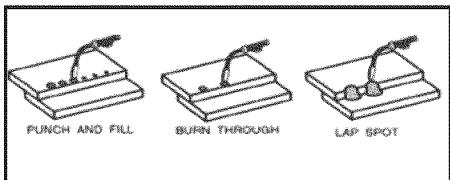

Fig. 16
- **BURN-THROUGH METHOD** welds two overlapped pieces of metal together by burning through the top piece and into the bottom piece. With the burn-through method, larger wire diameters tend to work better than smaller diameters. Wire diameters that tend to work best, with the burn-through method are 0.035 inch self-shielding flux-core wire. Do not use 0.030 inch self-shielding flux core wires when using the burn-through method unless the metal is VERY thin or excessive filler metal build-up and minimal penetration is acceptable. Always select the HIGH heat setting with the burn-through method and tune in the wire speed prior to making a spot weld. (Fig 16)
- **PUNCH AND FILL METHOD** produces a weld with the most finished appearance of the three spot weld methods. In this method, a hole is punched or drilled into the top piece of metal and the arc is directed through the hole to penetrate into the bottom piece. The puddle is allowed to fill up the hole leaving a spot weld that is smooth and flush with the surface of the top piece. Select the wire diameter, heat setting, and tune in the wire speed as if you were welding the same thickness material with a continuous bead. (Fig. 16)
- **LAP SPOT METHOD** directs the welding arc to penetrate the bottom and top pieces, at the same time, right along each side of the lap joint seam. Select the wire diameter, heat setting, and tune in the wire speed as if you were welding the same thickness material with a continuous bead. (Fig. 16)